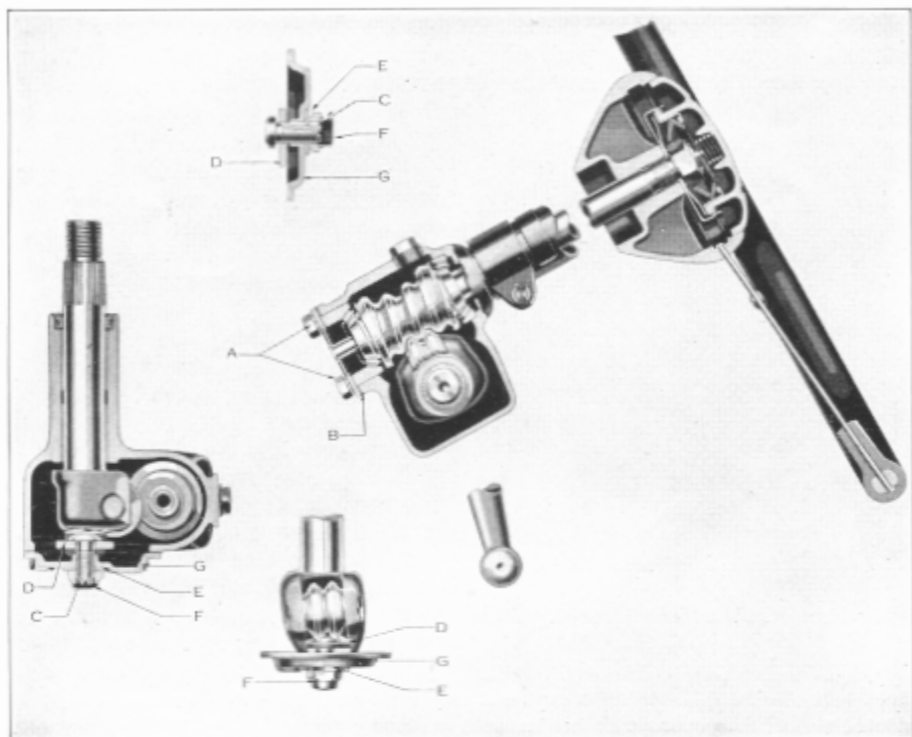

Figure 20
Worm bearing adjustment should be correct before other adjustments are made. To adjust, loosen four worm cover screws (A) (two not shown), Figure 20, $\frac{1}{8}$ ". Use a knife to separate the top shim (B), passing blade all the way around between shims, care being taken not to mutilate the remaining shims. Remove only one shim at a time between inspections to remove end play. Care should be taken not to set up stiffness in worm bearings.
To adjust for closer mesh of the roller tooth and worm, remove cap (F), Figure 20, slide off lock plate (E) far enough to clear lock boss on roller shaft cover (G). Place steering wheel in mid-position or straight ahead driving position. The adjusting screw (C) is then tightened into the housing, then backed off just enough to prevent binding. Check the amount of play at the end of the ball arm. It is advisable to leave a slight amount of play at this point rather than to tighten too much.
The end play in the cross shaft and mesh between the worm and roller tooth is adjusted by a screw (C), Figure 20, extending through right side of the gear housing. A flat washer (D), assembled to the inner end of screw (C), fits into a slot in the roller tooth to control the movement of the roller tooth. A lock plate (E) is used